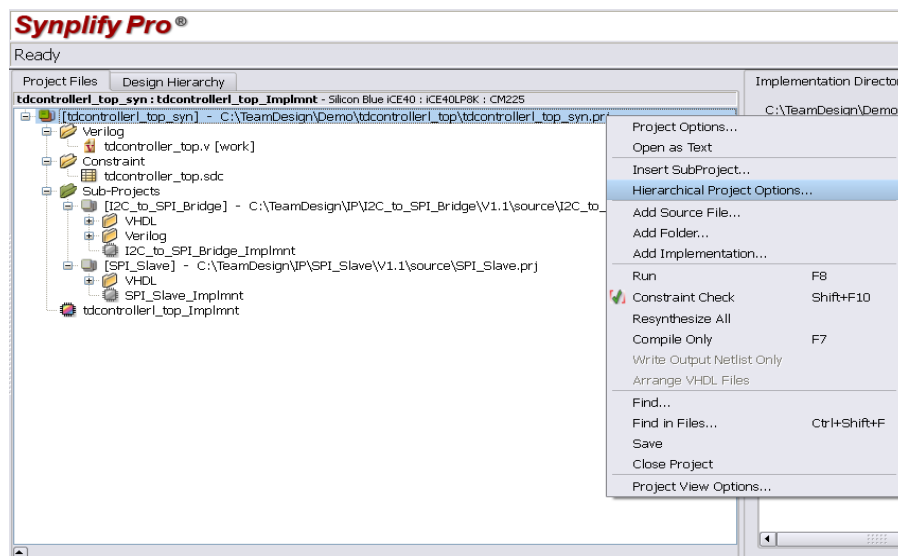

Figure 9-10 : Select Hierarchical Project Options Menu
1. In the Synplify Pro tool, select the top level project and right click on it. Select "Hierarchical Project Options" as shown in Figure 9-10.